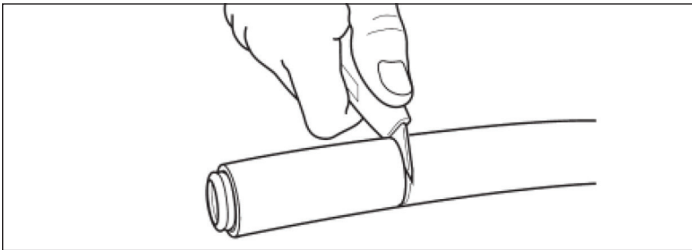

Figure: 1-3
6. Finish cutting through the jacket down to the stainless-steel corrugated tubing using a sharp utility knife (Figure 1-3).